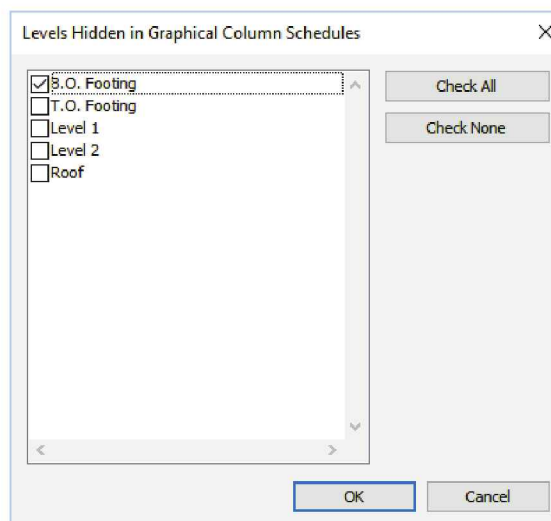

FIGURE 12-4.3 Hiding Levels
6. Check **B.O. Footing** and click **OK** (Figure 12-4.3).